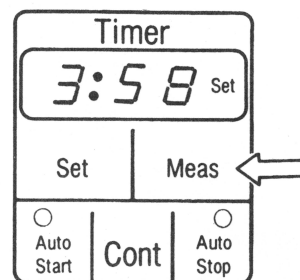

Figure 13. **[Meas]** Time Key.
11. During operation to learn how much time of set-time remains, press **[Meas]** on timer console (Figure 13). Time remaining appears in timer display.